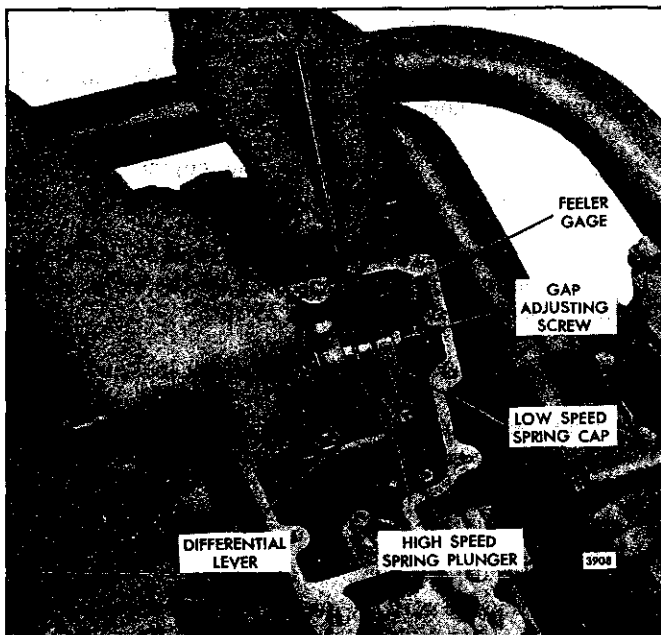

Fig. 12 - Checking Governor Gap
6. Check the gap between the low-speed spring cap and the high-speed spring plunger with a feeler gage (Fig. 12). The gap should be .002"–.004". If the gap setting is incorrect, reset the gap adjusting screw.